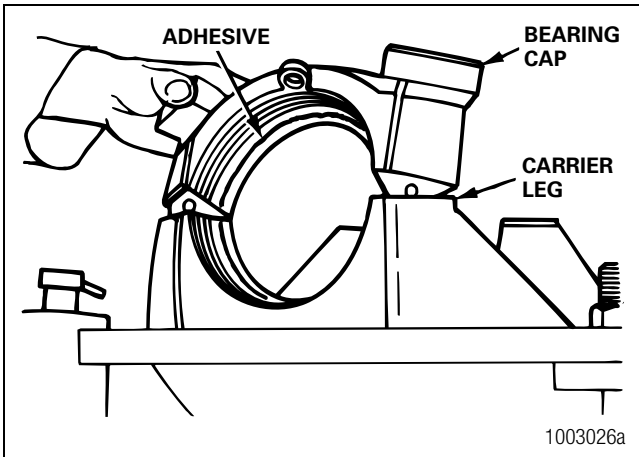

Figure 4.10
3. Apply a single continuous bead of the adhesive to the bearing bores in the carrier and bearing caps. Apply the adhesive around the circumference of the smooth, ground surfaces only. Do not place the adhesive on the threaded areas. Figure 4.10.